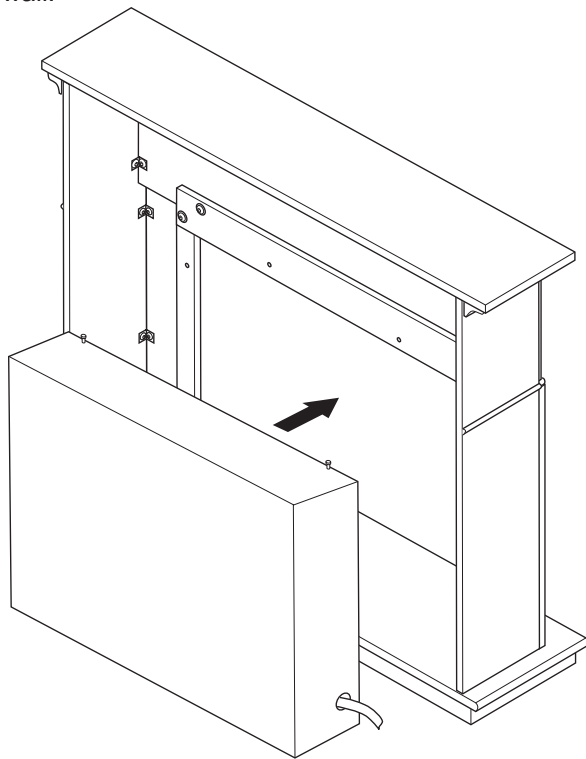

Figure 6 - Installing Fireplace
5. Position fireplace inside mantel (see Figure 6). Carefully position gas lines. **IMPORTANT:** Use caution when positioning fireplace on base. Base may scratch easily. Make sure fireplace is in proper position within mantel opening before continuing with installation.